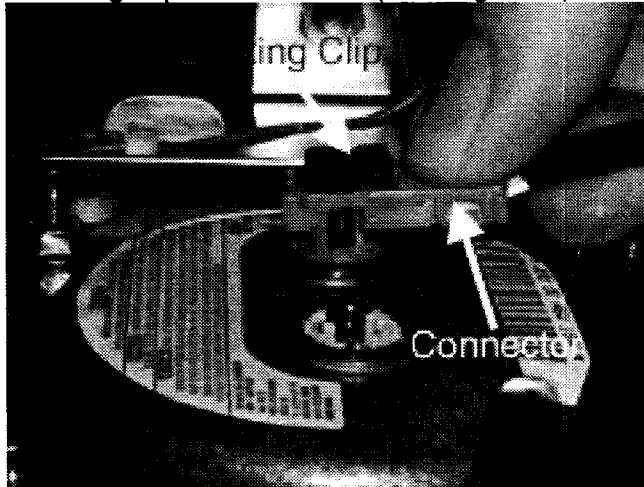

Figure 3
- Be careful to push only on the harness connector until it is fully seated, **not** on the harness locking clip to connect it (see Figure 3).